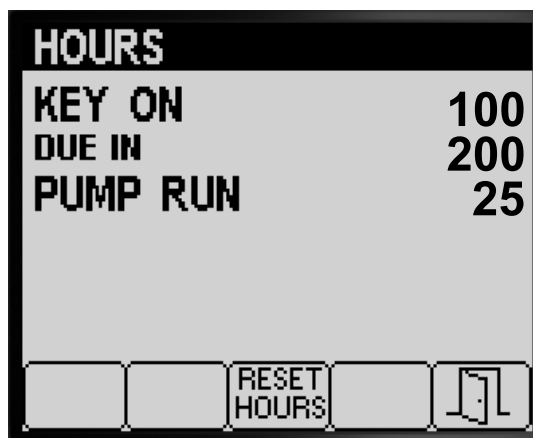

Figure 81
3. Use the counter information (Figure 81) displayed on the screen to determine the following:
4. To reset the hours for all counter information, press button 3 (Figure 81).
5. Press button 5 to exit the HOURS screen, and return to the SERVICE screen (Figure 81).